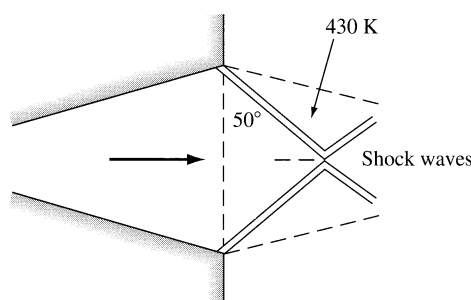

Fig. C9.3
**C9.3** Fig. C9.3 shows the exit of a converging-diverging nozzle, where an oblique shock pattern is formed. In the exit plane, which has an area of  $15 \text{ cm}^2$ , the air pressure is 16 kPa and the temperature is 250 K. Just outside the exit shock, which makes an angle of  $50^\circ$  with the exit plane, the temperature is 430 K. Estimate (a) the mass flow; (b) the throat area; (c) the turning angle of the exit flow; and, in the tank supplying the air, (d) the pressure and (e) the temperature.